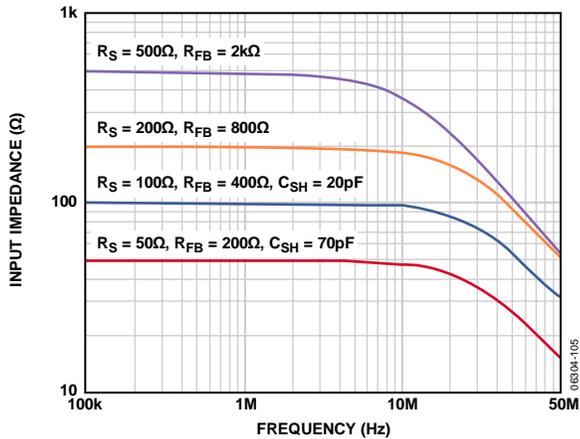

Figure 42.  $R_{IN}$  vs. Frequency for Various Values of  $R_{FB}$
The bandwidth (BW) of the LNA is about 70 MHz. Ultimately the BW of the LNA limits the accuracy of the synthesized  $R_{IN}$ . For  $R_{IN} = R_s$  up to about 200  $\Omega$ , the best match is between 100 kHz and 10 MHz, where the lower frequency limit is determined by the size of the ac-coupling capacitors, and the upper limit is determined by the LNA BW. Furthermore, the input capacitance and  $R_s$  limit the BW at higher frequencies. Figure 42 shows  $R_{IN}$  vs. frequency for various values of  $R_{FB}$ .
Note that at the lowest value, 50  $\Omega$ , in Figure 42,  $R_{IN}$  peaks at frequencies greater than 10 MHz. This is due to the BW roll-off of the LNA, as mentioned previously.